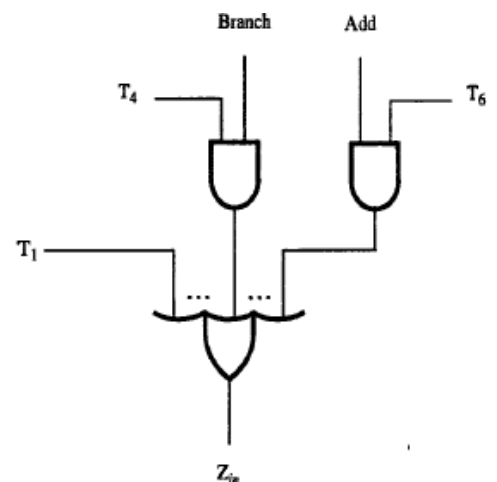

Figure 7.12 Generation of the Z_{in} control signal
- For example (Figure 7.12), $Z_{in}=T_1+T_6.ADD+T_4.BR$